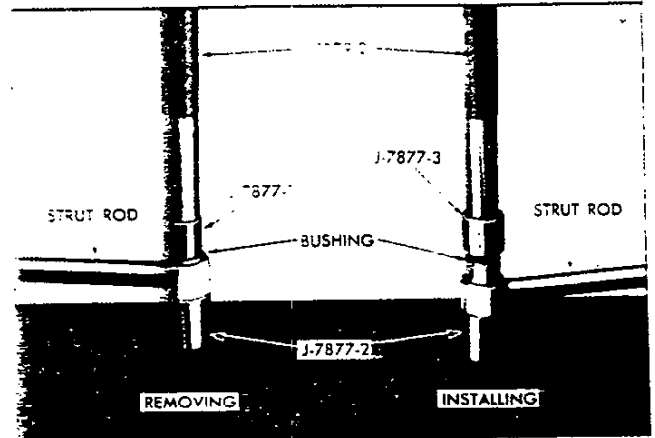

Fig. 16—Strut Rod Bushing Replacement
1. With strut rod bushing centered over Tool J-7877-2 and with strut rod supported horizontally, press or drive bushing from rod, using Tools J-7877-1 and J-7079-2 as shown in Figure 16.
2. With strut rod end centered over Tool J-7877-2 and rod supported horizontally, press or drive bushing into arm using Tools J-7877-3 and J-7079-2 as shown in Figure 16. Tool J-7877-3 should bottom on strut rod when bushing is fully installed.